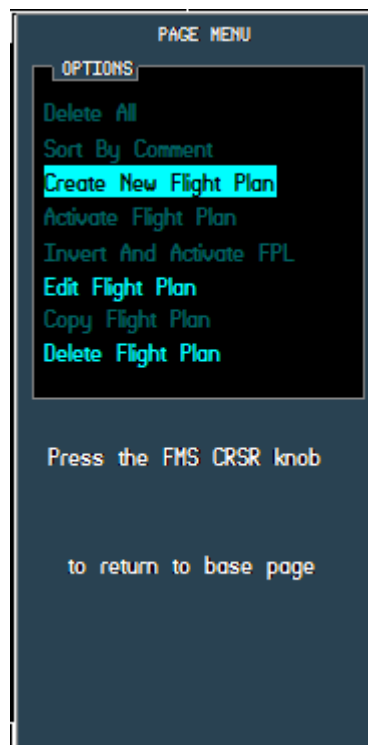

Figure 7.17
Flight plan editing from the flight plan catalog page is performed using newly displayed softkeys (Figure 7.16), and a popup menu window (Figure 7.17).
The edit options available on the fs2x G1000 flight plan catalog window are displayed in bright cyan in figure 7.17. The darkened options are not currently available; however they are included for future consideration. The available options are discussed below in order from top to bottom.
- 3.1 click on the MENU key when the active flight plan page is open. The flight plan catalog menu window is displayed (Figure 7.17).